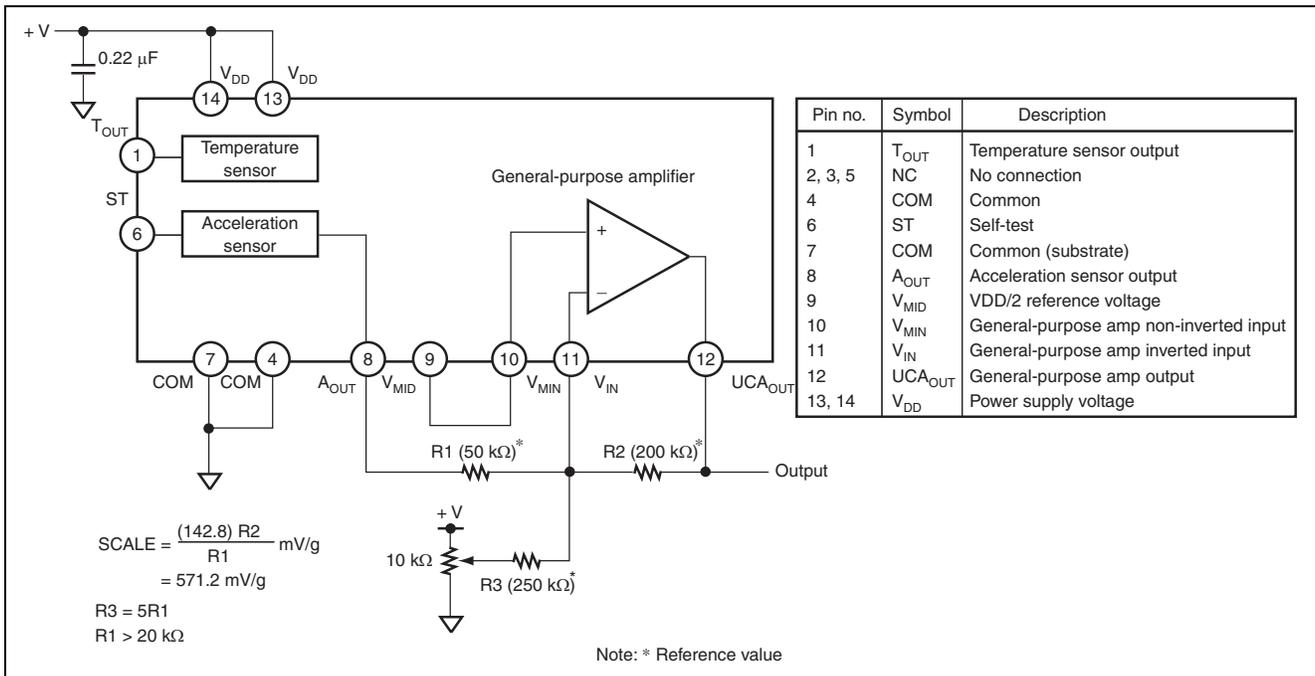

Figure 1.2 Application Circuit with Increased Scale Factor (Reference)
B. Figure 1.2 shows a reference circuit for application.